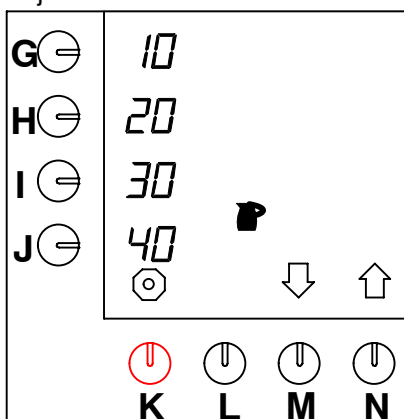

Fig. 37 Adjusting pre-programmed selection keys for jugs
- Press selection key (N.)↑ until fig.37 appears on the display.